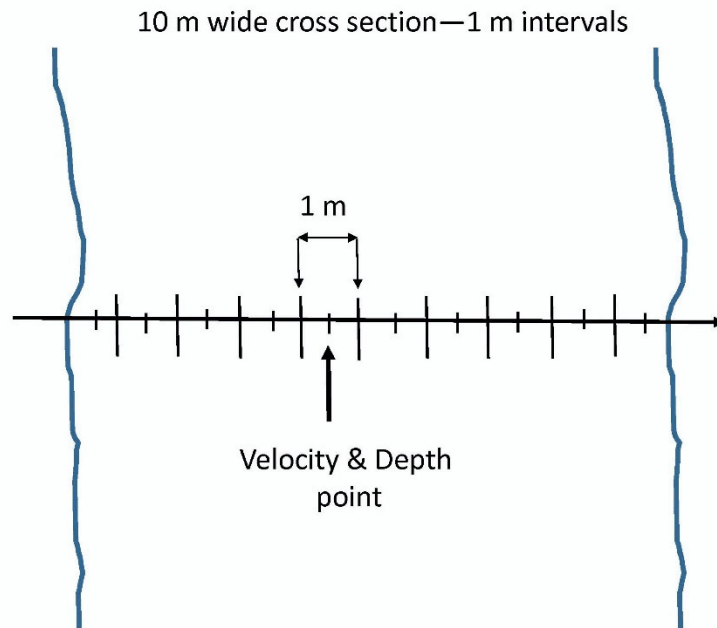

Figure 1. Cross section diagram.
- C. Divide the stream into equal intervals across the width of the cross section, usually 15 to 20. A minimum of 10 intervals is recommended. A velocity and depth measurement will be recorded for each interval across the stream at the center of each interval. For example, if the stream is 10 meters wide, 10 velocity and depth measurements will be taken at one meter intervals. The first measurement will be taken a half meter from the water's edge, the second will be taken at 1 ½ m from the water's edge, etc., as shown in Fig. 1.